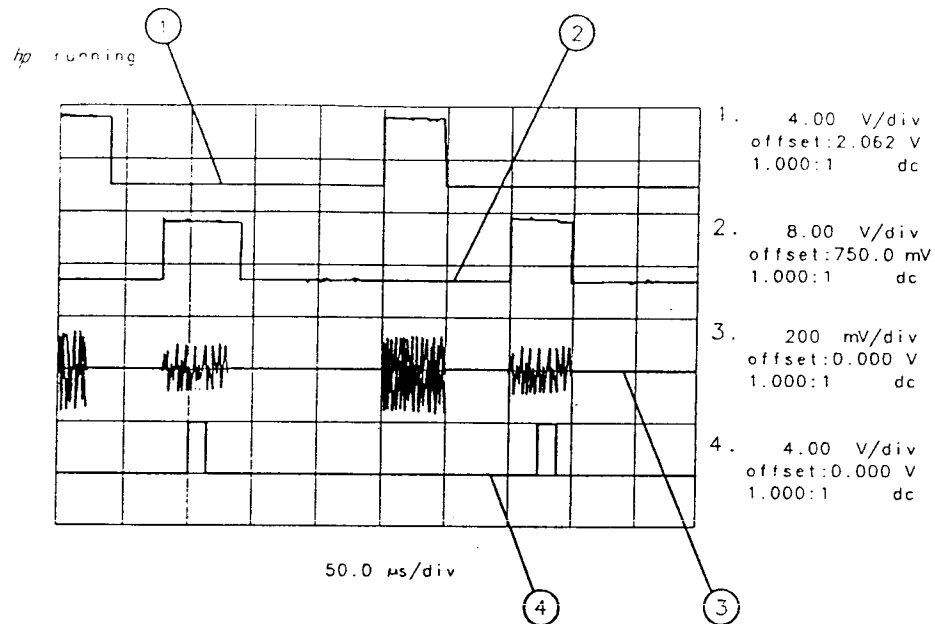

Figure 2-61. Placing the Gate Output During the Second Signal
9. To view the second signal, change the gate delay so that the gate output is under the second signal. Since the second signal had a signal delay of approximately $85 \mu\text{s}$, we set the gate delay to $85 \mu\text{s}$ plus the pulse width/2, or $110 \mu\text{s}$. Press **[SWEEP]**, **GATE MENU**, $110 \mu\text{s}$ to set the gate delay to $110 \mu\text{s}$. Using an oscilloscope can be helpful in placing the gate output during the pulsed signal. See Figure 2-61.